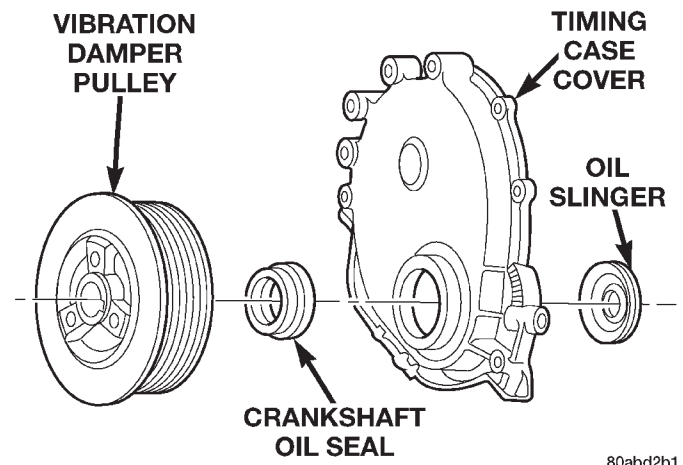

Fig. 41 Timing Case Cover Components
(1) Disconnect battery negative cable.
(2) Remove accessory drive belt (Refer to Group 07, Cooling System for proper procedure).
(3) Remove the accessory drive brackets that are attached to the timing case cover.
(4) Remove the fan and hub assembly and remove the fan shroud.
(5) Remove the A/C compressor (if equipped) and generator bracket assembly from the engine cylinder head and move to one side.
(6) Remove the vibration damper (Fig. 41).
(7) Remove the oil pan-to-timing case cover bolts and timing case cover-to-cylinder block bolts.
(8) Remove the timing case cover and gasket from the engine.
(9) Pry the crankshaft oil seal from the front of the timing case cover (Fig. 41).